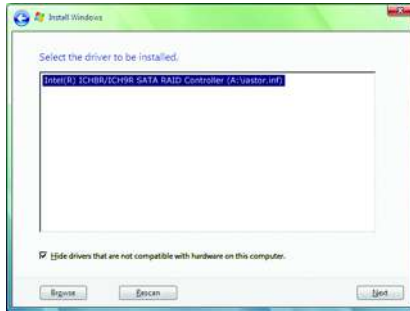

Figure 10
① Only for GA-EP35-DS3R.
When a screen as shown in Figure 10 appears, select **Intel(R) ICH8R/ICH9R SATA RAID Controller** ^(Note) and press **Next**.
(Note) The item displayed in Figure 10 will be shown as **Intel(R) ICH9 SATA AHCI Controller** when the SATA controllers are set to AHCI mode.